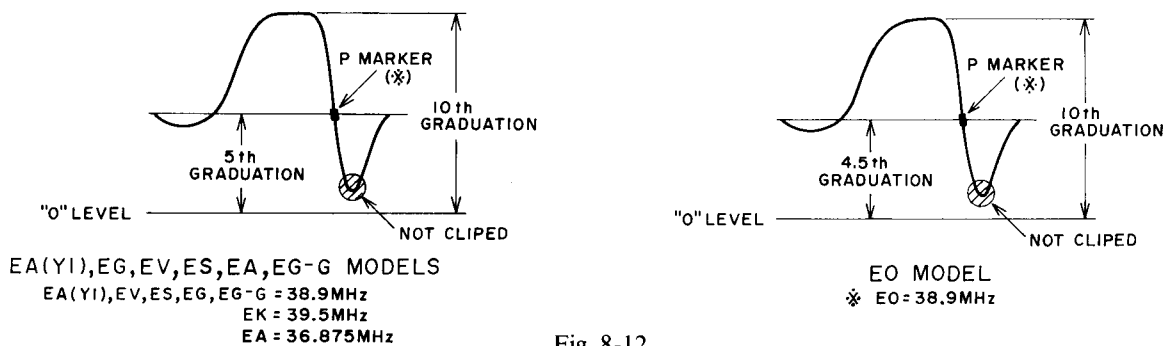

Fig. 8-12
- Connect an alignment scope to the AFT terminal (Pin ③ of P41).
- Give an optional size to the waveform with the External DC power supply (not clipped as shown in Fig. 8-12).
- Adjust L5 so that the marker (EG, EG-G, EO, ES = 38.9 MHz, EA = 36.875 MHz, EK = 39.5 MHz) is positioned 5th graduation (4.5th graduation for EO model) of the alignment scope (Fig. 8-12).